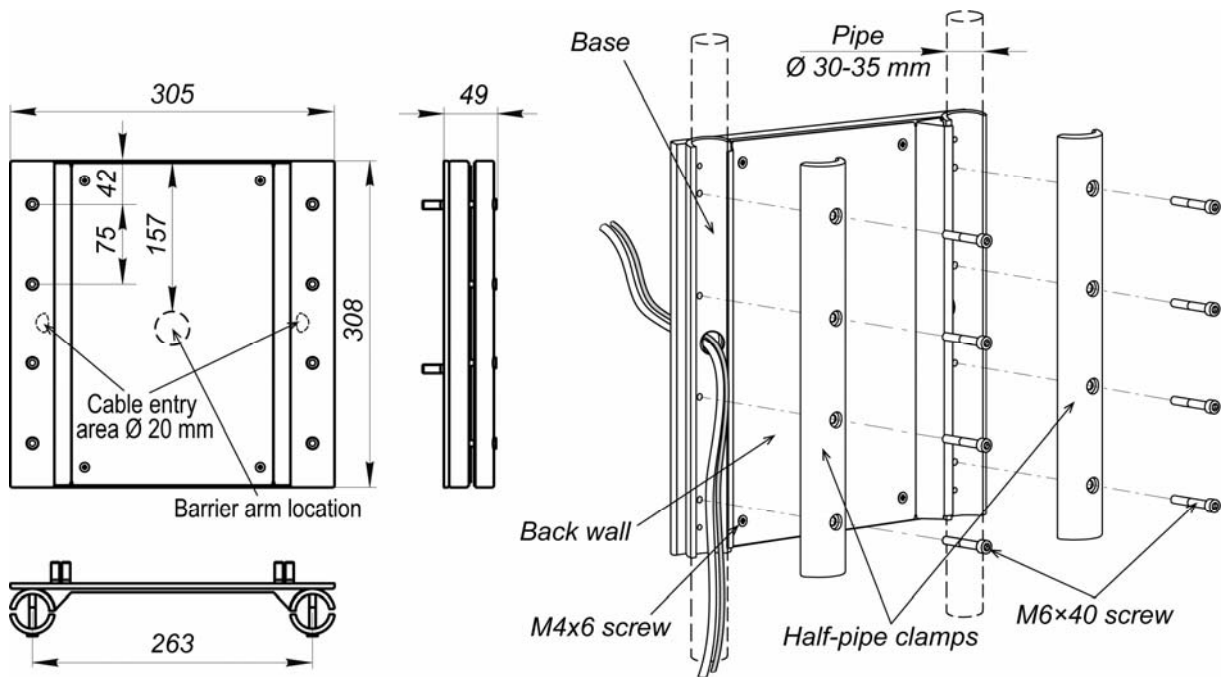

Figure 14. Dimensions and installation procedure for the MT10.1 mounting bracket
- a. Installation procedure for the **MT10.1** mounting bracket (**TTR-10AT** modification) (Fig. 14):